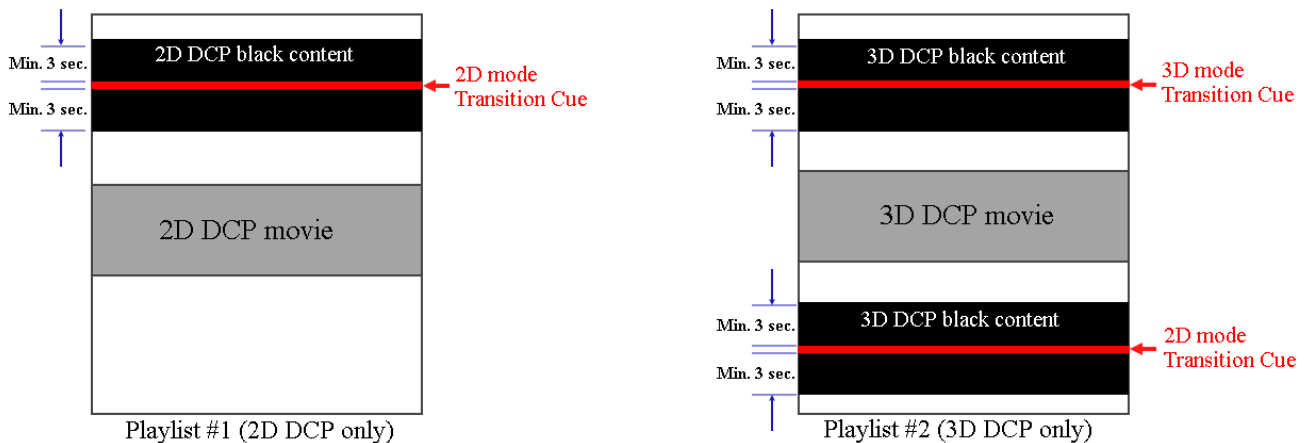

Figure 154: Inserting 2D & 3D black content for 2D & 3D playlist
3. The 2D Mode Transition cue should be configured to execute at least 3 seconds after the 2D DCP black content starts playing. After the 2D Mode Transition cue has been executed, there should be at least 3 seconds remaining before the 2D DCP black content playback finishes. Please refer to Playlist #1 in **Figure 154** for a diagrammatic representation.
3. The 3D Mode Transition cue should be configured to execute at least 3 seconds after the 3D DCP black content starts playing. After the 3D Mode Transition cue has been executed, there should be at least 3 seconds remaining before the 3D DCP black content playback finishes. Please refer to Playlist #2 in **Figure 154** for a diagrammatic representation.
5. The 2D Mode Transition cue should be configured to execute at least 3 seconds after the 3D DCP black content starts playing. After the 2D Mode Transition cue has been executed, there should be at least 3 seconds remaining before the 3D DCP black content playback finishes. Please refer to Playlist #2 in **Figure 154** for a diagrammatic representation.